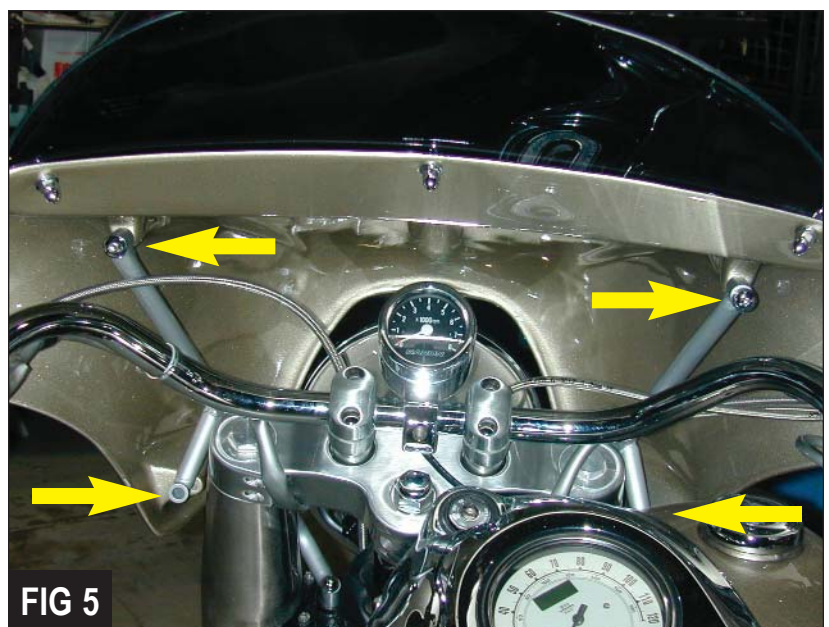

FIG 5
8. Secure the fairing to the bracket with a chrome m8 x 1.25 x 40 button head Allen bolt and flat washer at each of the four locations (*Figure 5*).